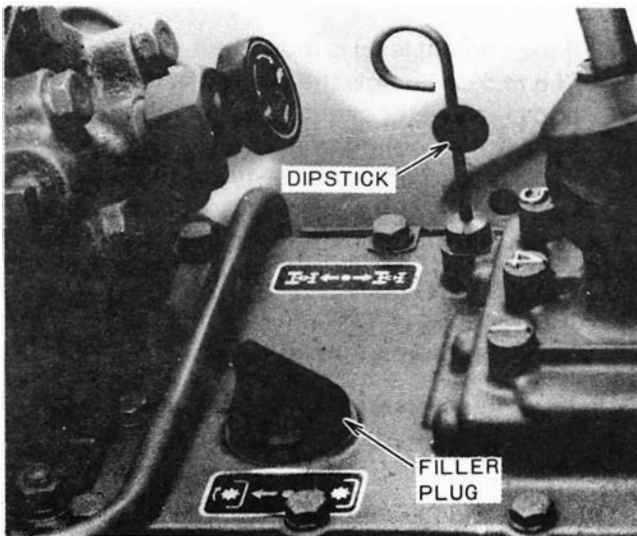

Figure 30 — Transmission, Rear Axle and Hydraulic System Oil Level Dipstick and Filler Plug
1. With the tractor standing level and the engine off, check the oil level with the dipstick, Figure 30.
3. Remove the filler plug and dipstick, Figure 30, and fill with new oil of the type specified, page 21.